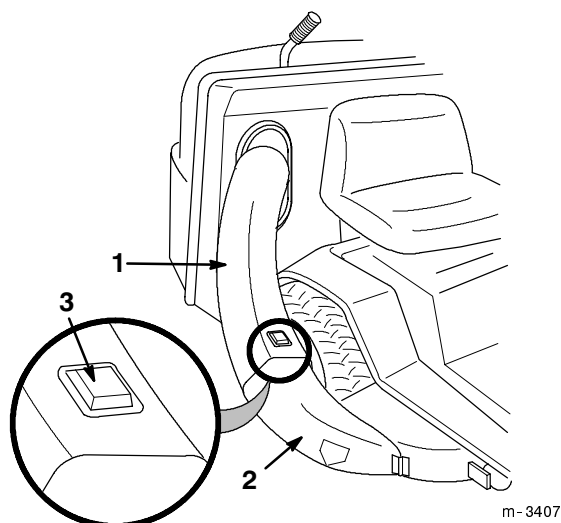

Figure 5
- Slide the discharge tube into the opening in the grass catcher (Fig. 5).
- Slide the discharge tube over the end of the chute, ensuring that the tab on the chute snaps into the square hole in the discharge tube (Fig. 5).
- Push on the tab on the chute and pull the discharge tube free from the chute and grass catcher (Fig. 5).